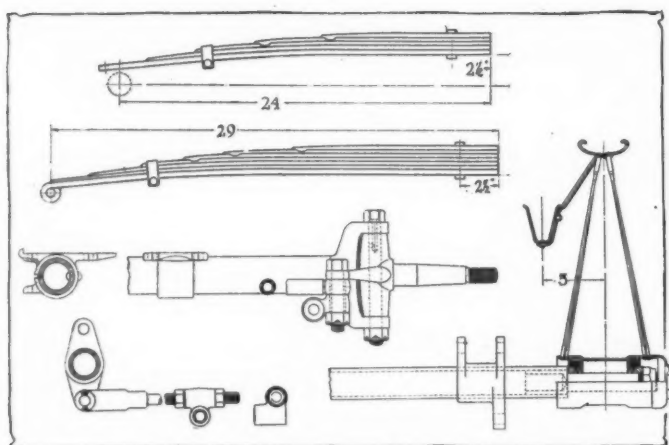

Fig. 6—Bicar cycle parts. Top—Quarter elliptic springs. Middle—Front axle construction. Bottom—Radius rod design. Right—Rear axle and wire wheel construction
**Bicar Cyclecar Parts**—Front and rear axles, V-belts, wheels and springs for cyclecars are manufactured by the Engineering Equipment Co., Indianapolis, Ind. These are illustrated in Fig. 6.